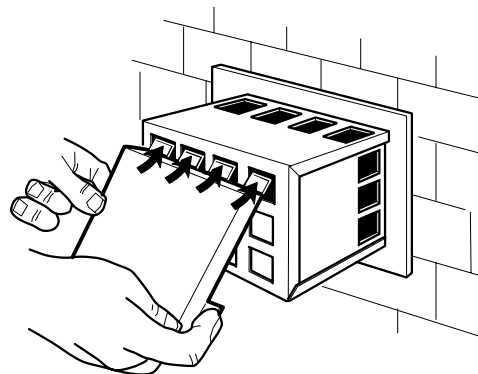
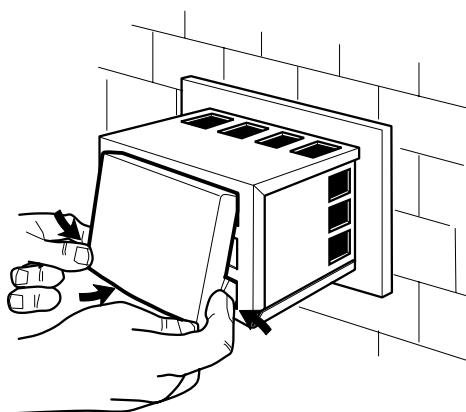

Fig. 28
Fig. 29
- 12 Fit the clip on the deflector plate to the face of the terminal. Locate the lugs on the top edge of the deflector into the upper holes on the front face of the terminal, see Fig. 28. Carefully depress the sides of the deflector and locate the side lugs into the holes in the terminal as shown in Fig. 29.